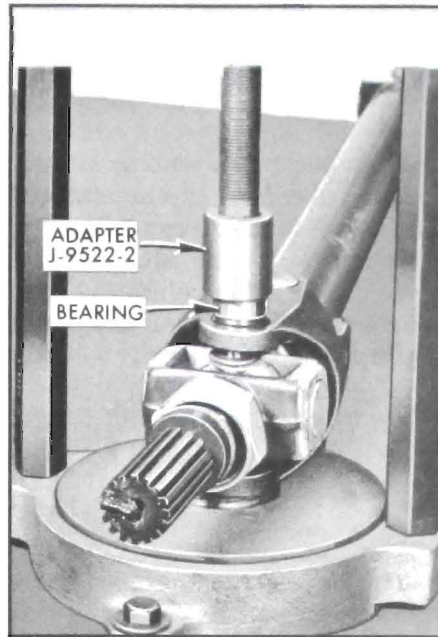

Figure 6-71—Pressing Bearing Into Position
3. Place the assembly in position with Power Ram J-6180 and Pump J-6207 as shown in Figure 6-71. Position the bearing straight over the hole in the yoke. Carefully